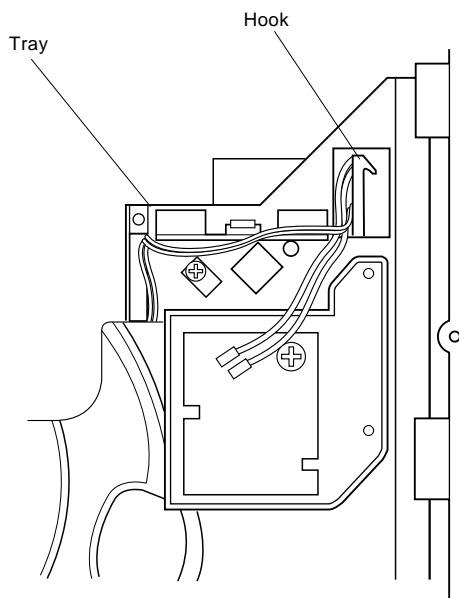

Fig. 11
- e. Unhook 1 Tray hook in Fig. 11 and pull out the Tray.